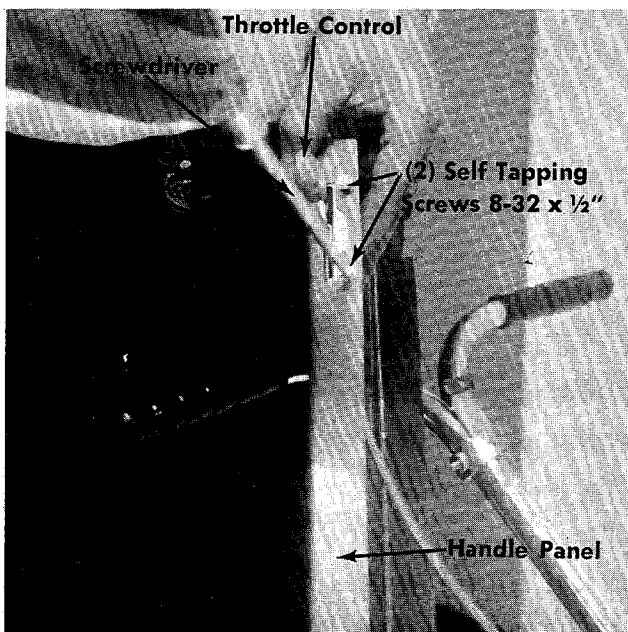

**FIGURE 12. LOCKOUT BRACKET ASSEMBLY**
- d. Place the lockout bracket assembly under the "T" portion of the upper handle with the bolt ends facing up. See figure 12.
- e. Place the clamp bracket over the bolt ends in the lockout bracket assembly and secure with three (3) Hex Center Lock Nuts 1/4-20 Thd. See figure 12. Tighten nuts tight.